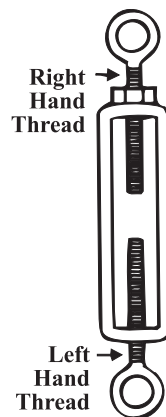

Figure 1. Turnbuckle and Hex Nut
- a. Remove right-hand thread eyebolt from turnbuckle (see Figure 1) and install hex nut on eyebolt with nut's teeth away from eye.